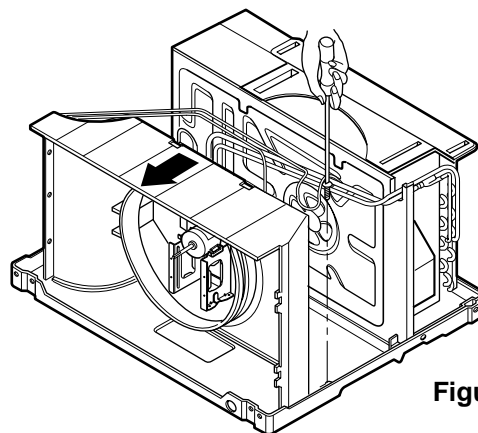

Figure 21
3. Remove the shroud. (See Figure 21)